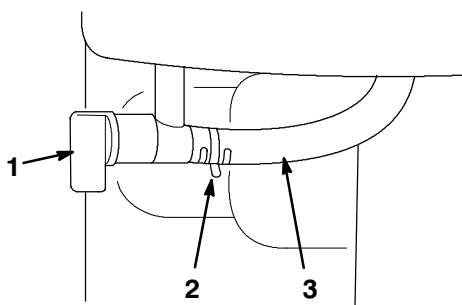

Figure 19
- **Fuel Shutoff Valve** (Fig. 19)—Close the valve by rotating it clockwise. Open the valve by rotating it counterclockwise. Close the valve when you do not use the snowthrower.
3. Open the fuel shutoff valve below the fuel tank (Fig. 19).
6. Close the fuel shutoff valve (Fig. 19).